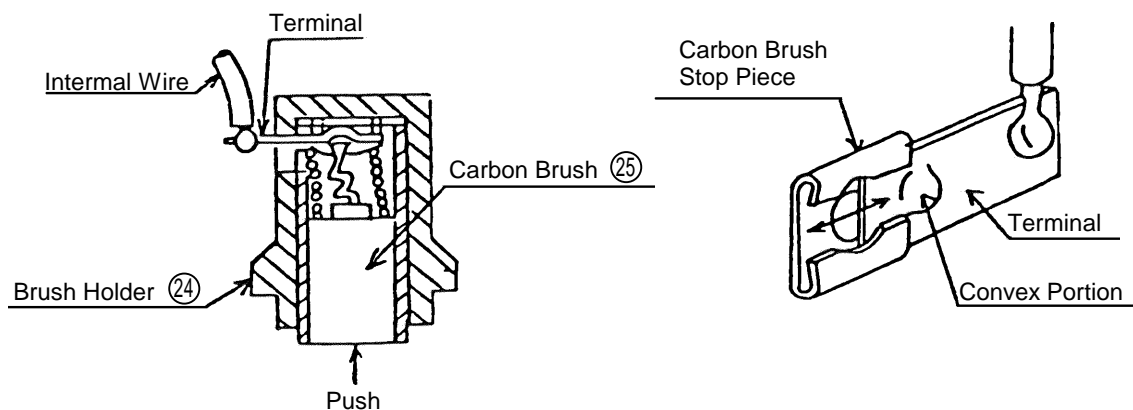

Fig. 2
(2) Remove the Carbon Brush:
With a small minus-head screwdriver, lift up on the Brush Holder (24), and pull it out slightly. Next, pull out the terminal portion which connects the Carbon Brush (25) and the lead wire from the Reversing Switch Ass'y (27). When pulling the terminal, it is best to push the Carbon Brush fully into the Brush Holder (see Fig. 2).
- (1) When connecting the lead wire terminal to the Carbon Brush ⑳, ensure the terminal is inserted in the direction illustrated in Fig. 2.